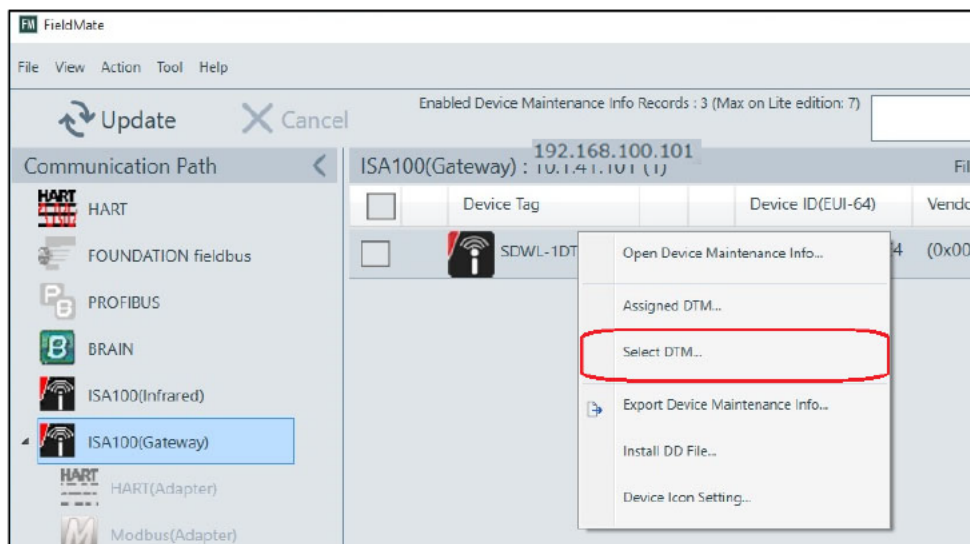

Figure 5-9 Segment viewer (DTM selection menu selection)
- ⑦ Right-click the SDWL-1 for which you wish to launch the DTM, then click “Select DTM...”.
⑧ Figure 5-9)